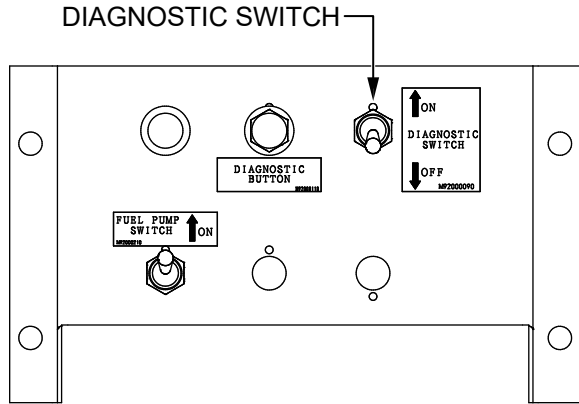

Figure 3. Diagnostic Switch (OFF Position)
3. Make sure the **Diagnostic switch** (located inside the control box) is placed in the **OFF** position. See Figure 3. Make sure the control panel is closed properly before proceeding.